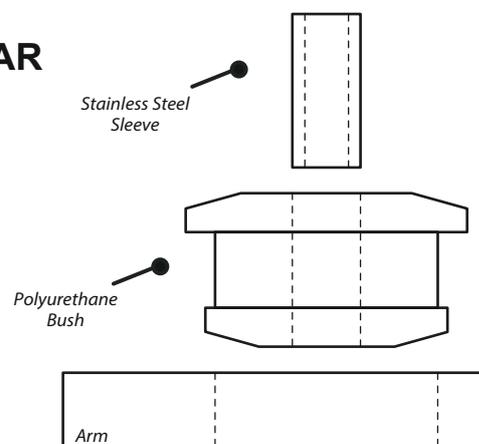

Figure 1 - Arm Assembly
2. Apply some washing up liquid to the exterior surface of the Polyurethane Bush and using a vice or press, press the Polyurethane bush into the bore of the arm, until both lips sit flush on the outer surfaces of the arm. Take note of the positioning of the bush in Figure 1, where the smaller lip is inserted first into the bore and the larger lip is facing the top of the car.